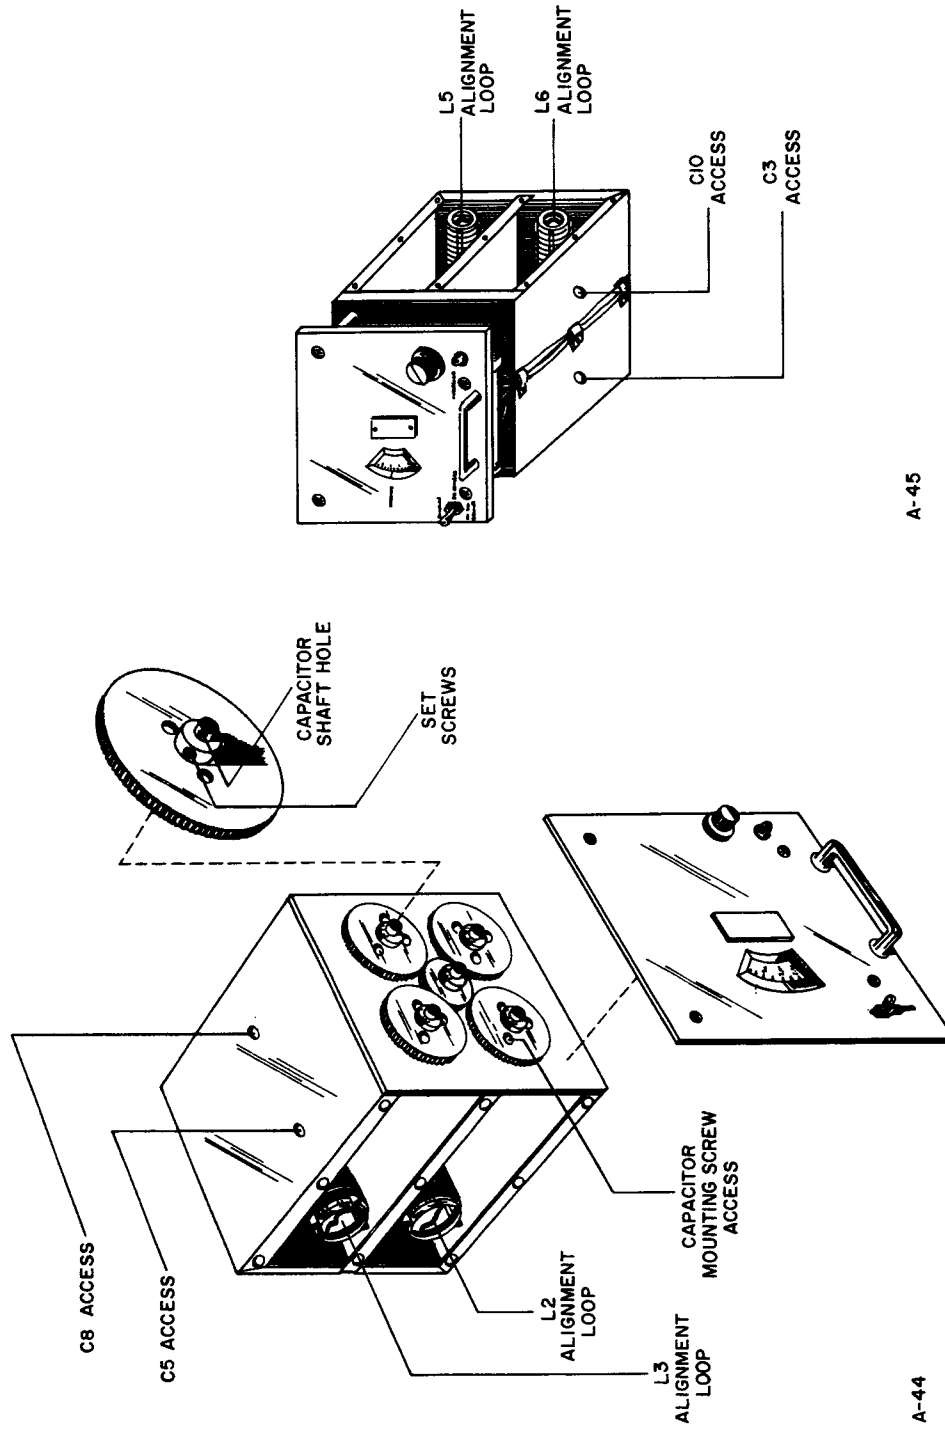

FIGURE 5-11. ALIGNMENT ACCESS POINTS
(5) Set the sweep generator and marker to 10 MHz.
(6) Tune the coupler FREQUENCY control until the marker is in the center of the waveform displayed. Lock the front tuning knob.
(7) Loosen the set screws which hold the gear on the C4 (tuning capacitor) shaft. Insert an awl into an alignment hole (see Figure 5-11) on the C4 shaft and adjust C4 for best waveform. Lightly tighten the set screws.
(8) Repeat step (7) for C6, C7 and C9. Lightly tighten capacitor gear set screws.
(9) Loosen the set screws in the dial gear. Set the dial to read 10 MHz when the coupler is tuned for maximum output of waveform with marker.
(10) Set sweep generator and marker to 17 MHz.
(11) Tune coupler dial to 17 MHz. Lock the front tuning knob.
(12) Adjust the four trimmers for symmetrical and maximum output.
(13) Repeat steps (5) through (12) as needed until alignment is acceptable.
(14) Simultaneously turn the coupler FREQUENCY control and center frequency control of the sweep generator from high to low frequency end. Observe the symmetry of response. When alignment is complete the waveforms should be acceptable throughout the tuning range.
(15) Tighten all set screws, replace all covers screws and recheck alignment.
(5) Set the sweep generator and marker to 17 MHz.
(9) Loosen the set screws in the dial gear. Set the dial to read 17 MHz when the coupler is tuned for maximum output of waveform with marker.
(10) Set sweep generator and marker to 30 MHz.
(11) Tune coupler dial to 30 MHz. Lock the front tuning knob.
(15) Tighten all set screws, replace all covers screws and re-check alignment.
(1) Remove the side covers and mechanically align the four tuning capacitors C4, C6, C7 and C9 at full mesh by loosening both set screws on each gear. Tighten set screws and set the dial to the first graduation on the low frequency end.
(2) Move the inductance loops to mid-position (see Figure 5-11).
(3) Set trimmer (C3) in resonator #1 to 1/4 mesh and the other three trimmers to mid-position.
(5) Set signal generator to 10 MHz.
(6) Tune the coupler FREQUENCY control for maximum output. Lock the front tuning knob.
(7) Loosen the set screws which hold the gear on the C4 (tuning capacitor) shaft. Insert an awl into an alignment hole (see Figure 5-11) on the C4 shaft and adjust C4 for a maximum output. Lightly tighten the set screws.
(9) Loosen the set screws in the dial gear. Set the dial to read 10 MHz when coupler is tuned to maximum output.
(10) Set signal generator to 17 MHz.
(12) Peak the output with the four trimmers (C3, C5, C8 and C10)
(14) Check the output at several frequencies between the high and low ends, for acceptable operation in mid-band. When alignment is complete, the outputs should be acceptable throughout the tuning range.
(15) Tighten all set screws, replace all cover screws and recheck alignment.
(7) Loosen the set screws which hold the gear on the C4 (tuning capacitor) shaft. Insert an awl into an alignment hole (see Figure 5-11) on the C4 shaft and adjust C4 for a maximum output. Lightly tighten set screws.
(9) Loosen the set screws in the dial gear. Set the dial to read 17 MHz when coupler is tuned to maximum output.
(10) Set signal generator to 30 MHz.